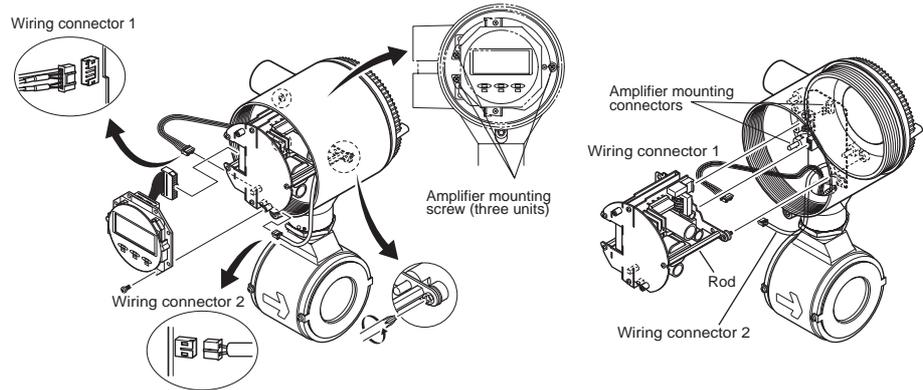

Figure 4.8.2 Removing / Assembling the Amplifier
- (1) Turn off the power.
- (2) Loosen cover locking screw, and remove the cover.
- (3) Remove wiring connectors 1 and 2 (refer to Figure 4.8.2) from the amplifier unit. Remove them carefully, without applying excessive force.
- (4) Loosen the three mounting screws while holding the unit with your hand.
- (5) Pull the unit straight out.